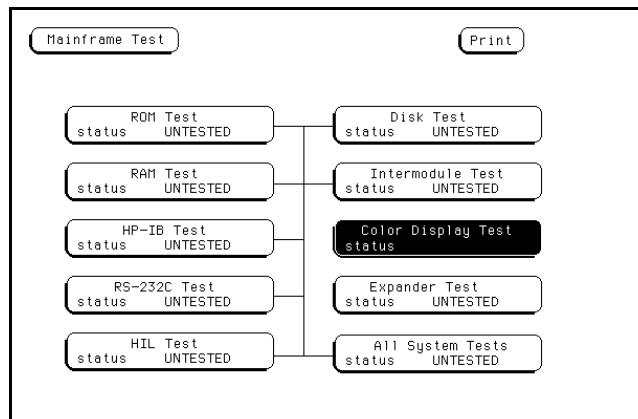
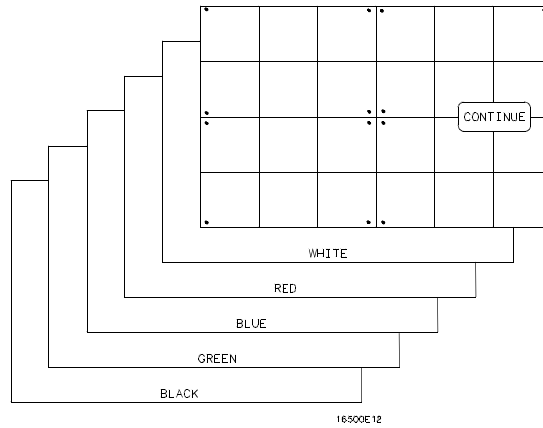

Figure 4-6. Mainframe Test Menu
Figure 4-7. Selecting the Test Patterns
6. The Mainframe Test menu is now displayed. See figure 4-6. Select the **Color Display Test** field to display the white cross hatch test pattern, which is the first test pattern in the system. See figure 4-7.
- With every touch of the **Continue** field, the next test pattern will be displayed. See figure 4-7.